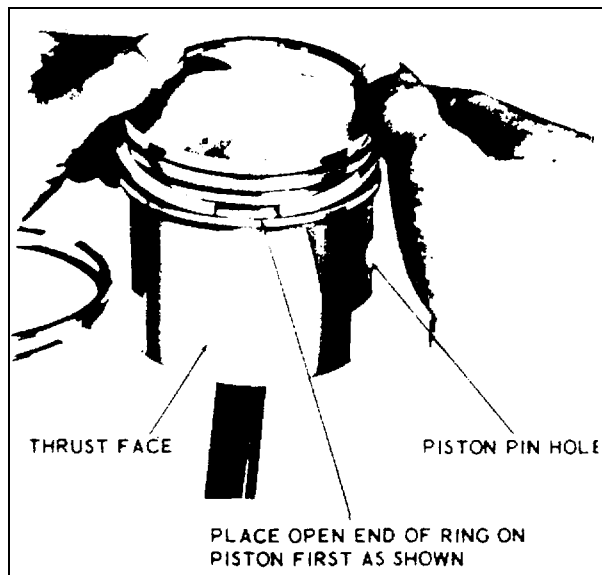
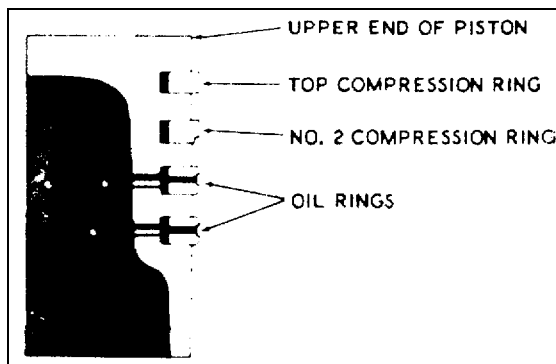

Figure 4-21. Installing Piston Rings
Figure 4-22. Piston Ring Positions
(4) Install piston rings by placing open end of ring on piston first as shown in figure 4-21, spreading ring only far enough to slip over piston and into correct groove. Number 2 compression ring must be installed with scraper edge down (figure 4-22). Use a suitable ring compressor for installing pistons in cylinders. Stagger piston ring gaps 90 degrees around piston. Oil pistons, rings, wrist pin, rod bearings, and cylinder walls before assembly. Be sure arrow on top of piston is pointing in direction of crankshaft rotation (clockwise when viewing flywheel end). Be sure piston and connecting rod assemblies are installed into same cylinder from which they were removed.